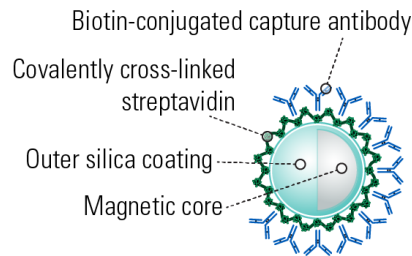

Figure 1. Exo-Flow 2.0 beads have an outer silica coating which delivers undetectable background binding.
Gain powerful insights into extracellular vesicle (EV) biology and analyze EV subpopulations for therapeutics development, biomarker discovery, and more with SBI’s Exo-Flow™ 2.0 EV Analysis Kits (Table 1). With Exo-Flow 2.0 technology, we’ve re-engineered our original Exo-Flow beads (Figure 1) to deliver virtually undetectable background binding. The result is highly specific antibody-based capture of EVs so you can easily analyze specific EV subpopulations by flow cytometry, western blot, or other downstream technology. Take your EV insights to the next level with Exo-Flow 2.0.